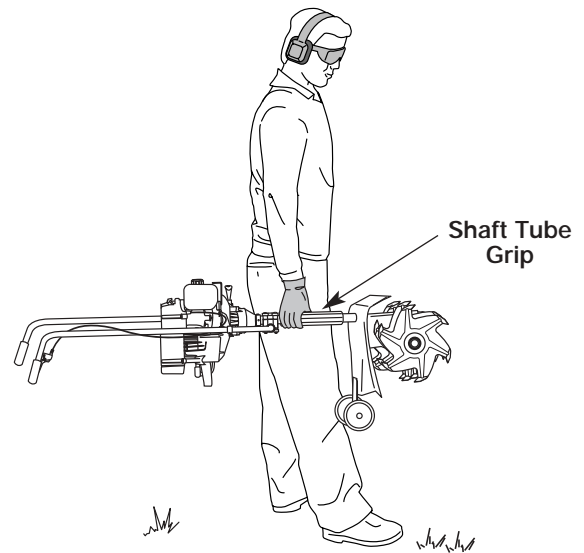

Figure 31
2. Either carry the unit by the shaft tube grip or grasp the center of the handlebar to use it as a carrying handle. See Figure 31.